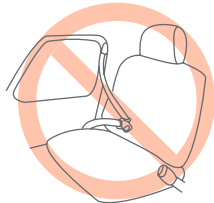

Fig. 15-3
- **DO NOT** use a seat belt that is connected to the door in any way. These types of seat belts are designed to automatically surround the occupant when the door is closed. This type of seat belt will NOT adequately restrain the Safety Seat. (Fig. 15-3).